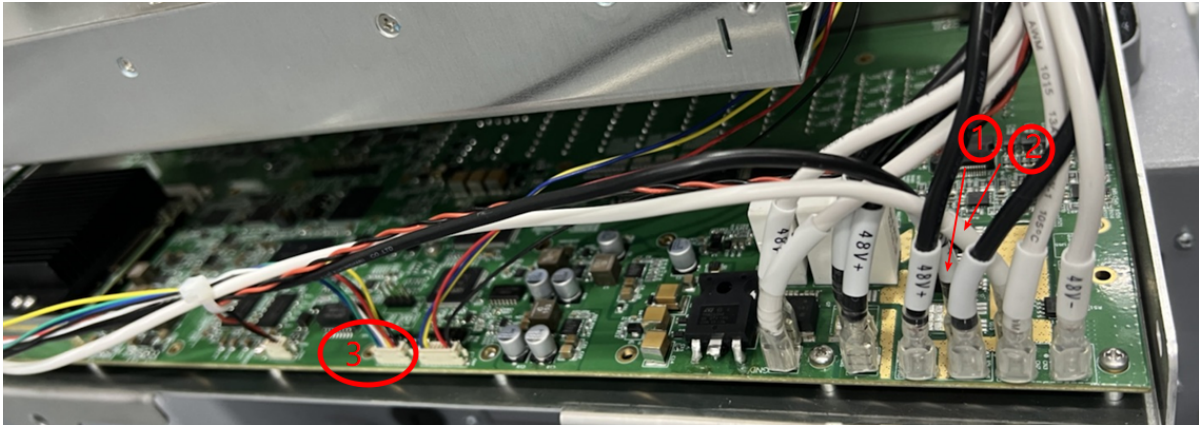

Figure 3-28 : The position of cable from the brake pads to Safe IO
7. Disconnect the cable from the brake pads to Safe IO as shown in **Figure 3-28** :